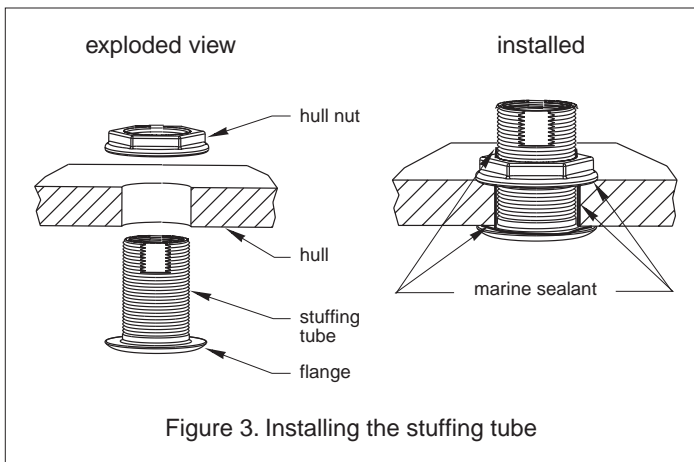

Figure 3. Installing the stuffing tube
3. Sand and clean the area around the hole, inside and outside, to ensure that the marine sealant will adhere properly to the hull. If there is any petroleum residue inside the hull, remove it with either a mild household detergent or a weak solvent (alcohol) before sanding (see Figure 3).